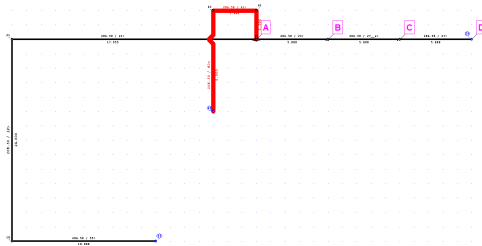

Figure 2.5.2: Creating and selecting the subsystem
Copy The function **Edit > Copy** or  can be used to extend the piping systems with symmetrical subsystems. Doing so the requested subsystem needs to be selected before, then a base point has to be defined. For more information, see the later instructions to fig. 2.5.2
At first the subsystem, which will be copied afterwards, is created and selected using **Edit > Select** or  (see fig. 2.5.2). Then using the following steps the subsystem will be duplicated:
2. Click the base point of the selected subsystem (node **A** in fig. 2.5.2)